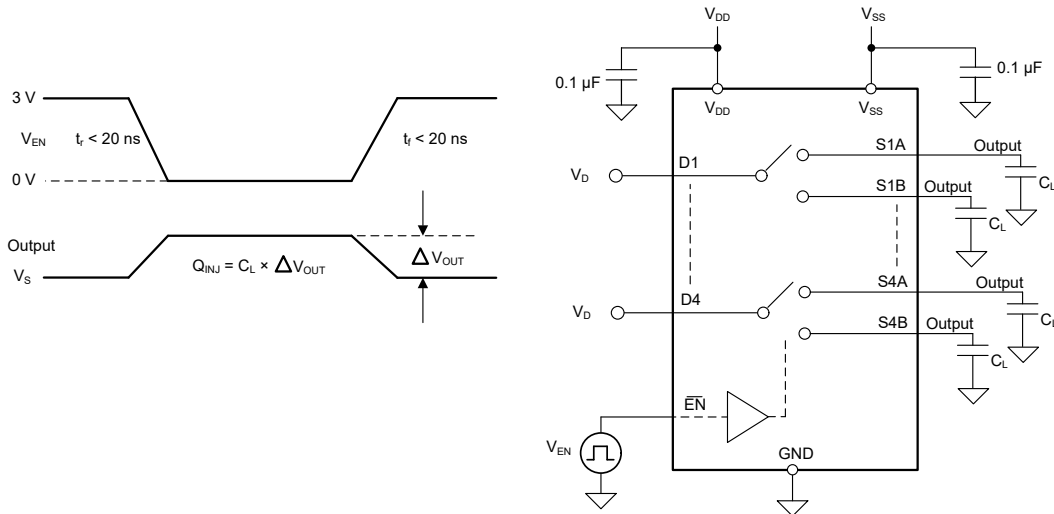

図 6-9. Charge-Injection Measurement Setup
The TMUX7234 has a transmission-gate topology. Any mismatch in capacitance between the NMOS and PMOS transistors results in a charge injected into the drain or source during the falling or rising edge of the gate signal. The amount of charge injected into the source or drain of the device is known as charge injection, and is denoted by the symbol  $Q_{INJ}$ . 図 6-9 shows the setup used to measure charge injection from source (Sx) to drain (D).